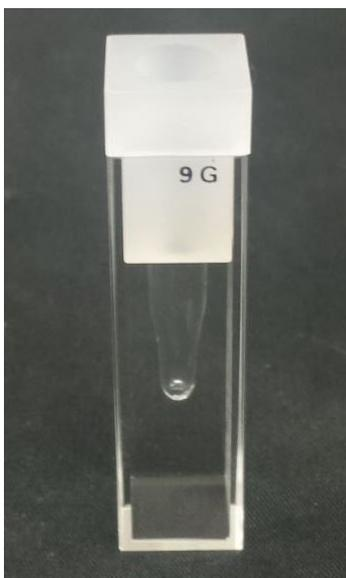

Figure 8. RI matching cell
Another approach to help with smaller size, lower concentration samples is to place a small volume cell into a refractive index (RI) matching fluid (Sigma Aldrich P/N M3516 or Acros Organics P/N 12402) inside a 10 mm cell as shown in Figure 8. This was the cell used to collect the lysozyme data at 0.1 mg/mL documented in Entegris Technical Note - 0.1 mg/mL lysozyme³.